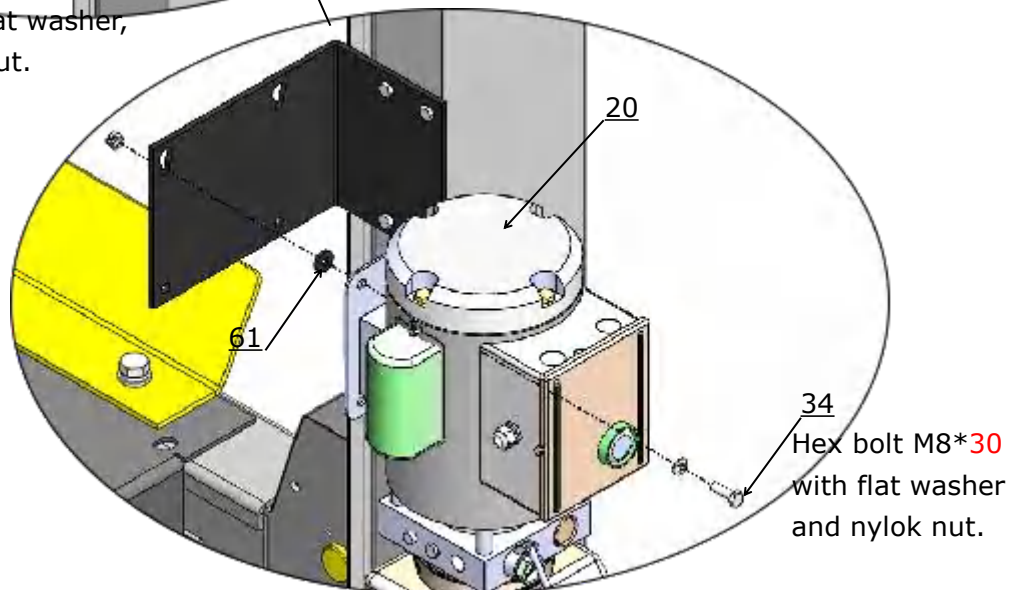

Fig. 40
Install the motor fixing bracket to the power side column. And install the power unit to the bracket. See fig 40.
1. For power unit install to the column at the side of cross beam **A** (See Fig. 40)